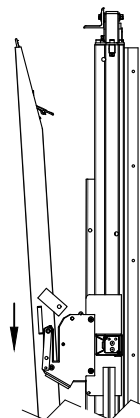

Figure 5: Step 9.
- Step 9. Lower the platform slowly and remove hand from self close arm handle when the ear has cleared the latch plate (Figure 5).
- Step 10. To load and use the railgate, center the load on the platform side to side and front to back (Figure 5). Put heavier loads as close to the front of the platform as possible (near truck). Platform cart stops may be actuated at this time, if equipped. Tie down rings are provided to help secure the load.